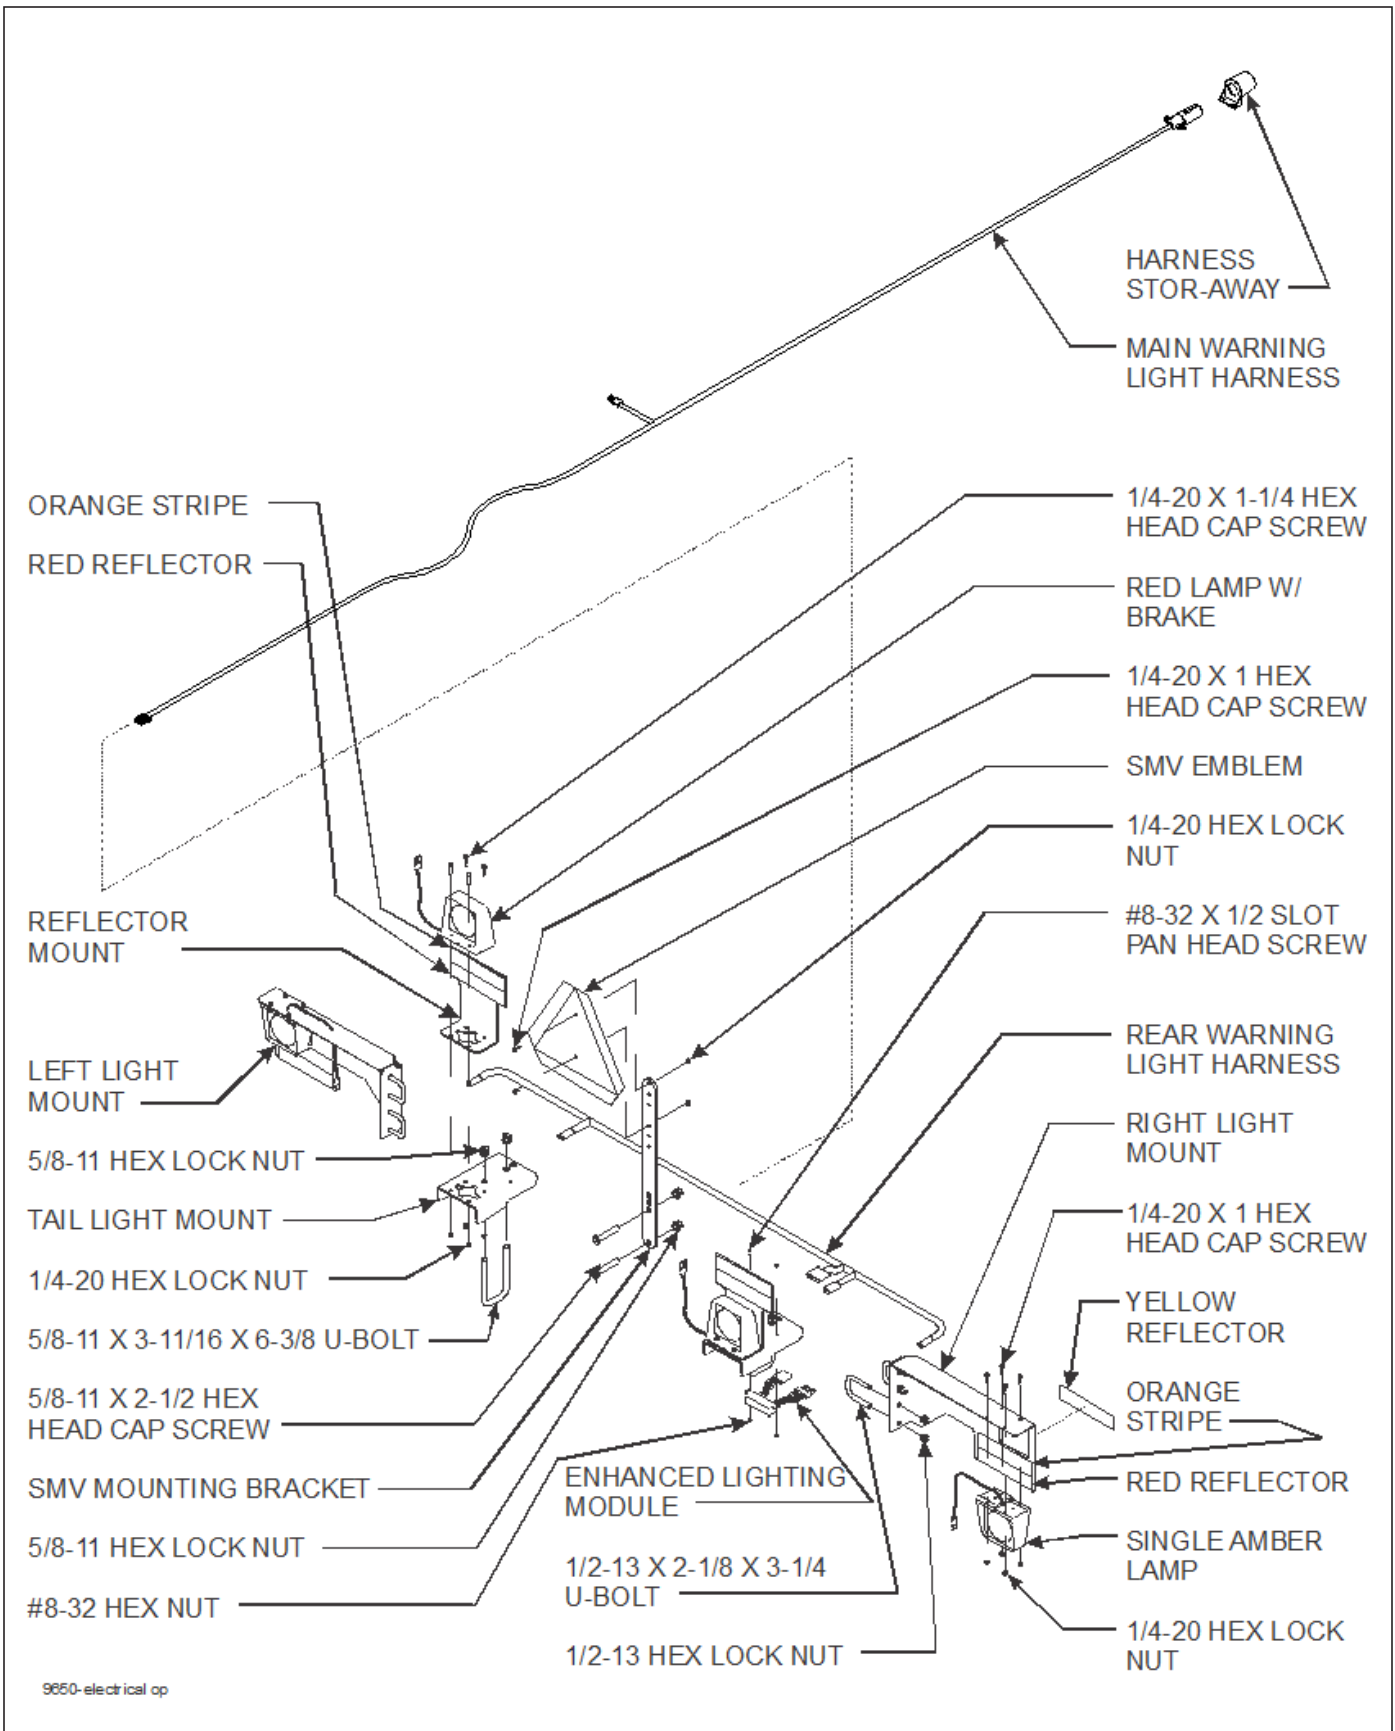

Figure 3-5: Lighting and SMV Bracket Installation (Prior to August, 2013)
1. Attach red lamp w/ brake and reflector mount assembly to each tail light mount using 1/4-20 x 1-1/4 hex head cap screws and hex lock nuts See Figures 3-5 and 3-6. Note that the reflector mount assembly includes the reflector mount, red reflector, and orange stripe.
7. Install the SMV mounting bracket close to the center of machine on rear frame member using 5/8-11 x 4-11/16 x 4-1/2 u-bolts and hex lock nuts so that bracket is snug around frame member See Figures 3-5.